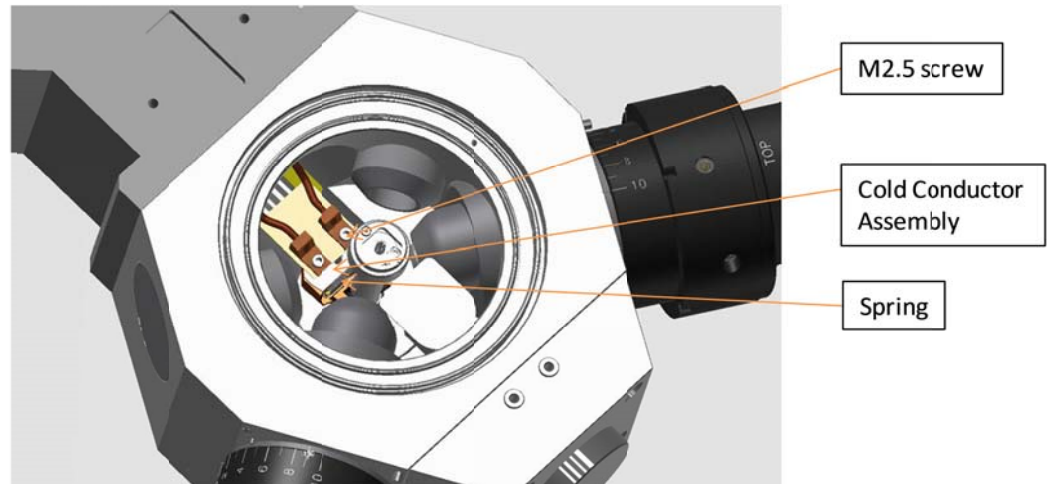

Figure 7-6 Open chamber showing access to cold stage.
5. **Disconnect the cold stage.** Remove the two M2.5 screws and washers and disconnect the cold stage heater from the hinged conductor assembly. See Figure 7-6.
- c) Connect the cold stage to the hinged conductor assembly. Install the two M2.5 screws and washers that connect the cold stage heater to the hinged conductor assembly. See Figure 7-6.